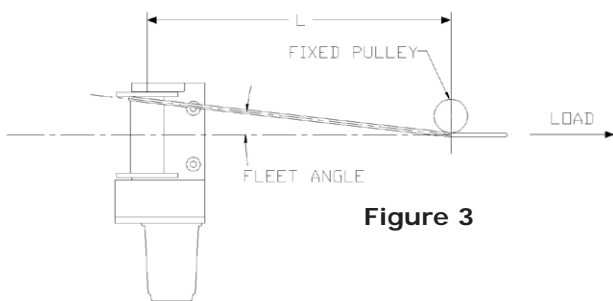

Figure 3
5. To allow proper spooling of the cable, the fleet angle should be no more than 1.5° (Figure 3). The minimum distance between the winch and a load or pulley should be 11 ft (3.35 m), assuming that a drum divider is not being used.